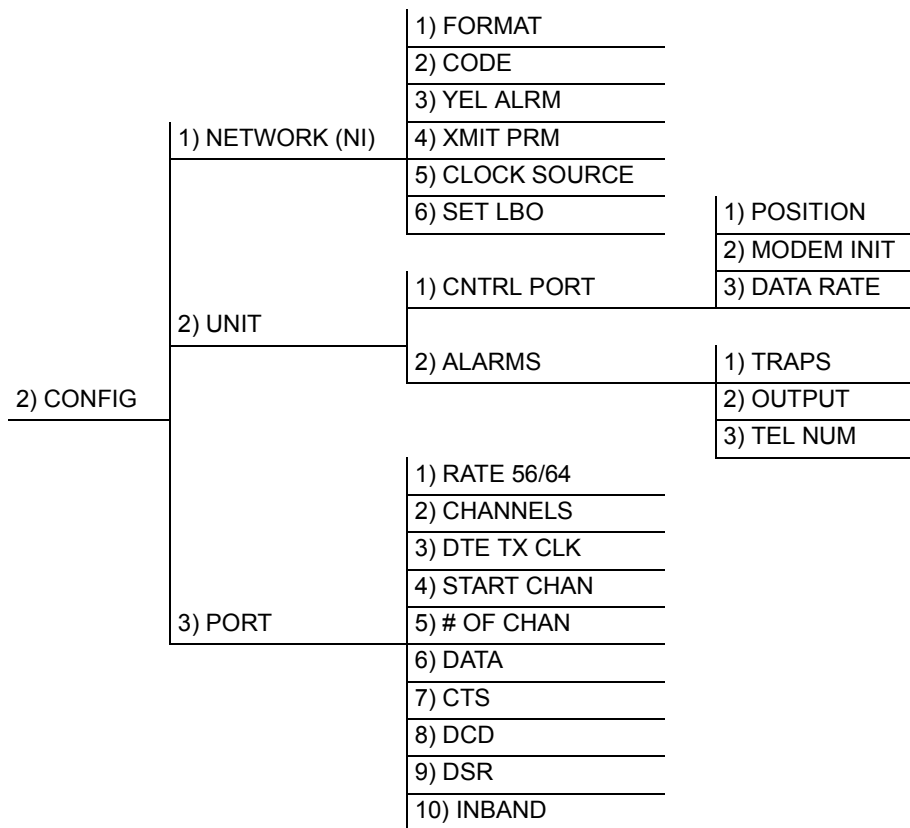

Figure 5-1. Configuration Menu Tree
Use the **CONFIG** menus to set the TSU LT operational configuration, including all of the network interface parameters, the allocation of the DS0s, and the port parameters. This menu includes three branches: **NETWORK (NI)**, **UNIT**, and **PORT**. Figure 5-1 shows the complete menu tree.